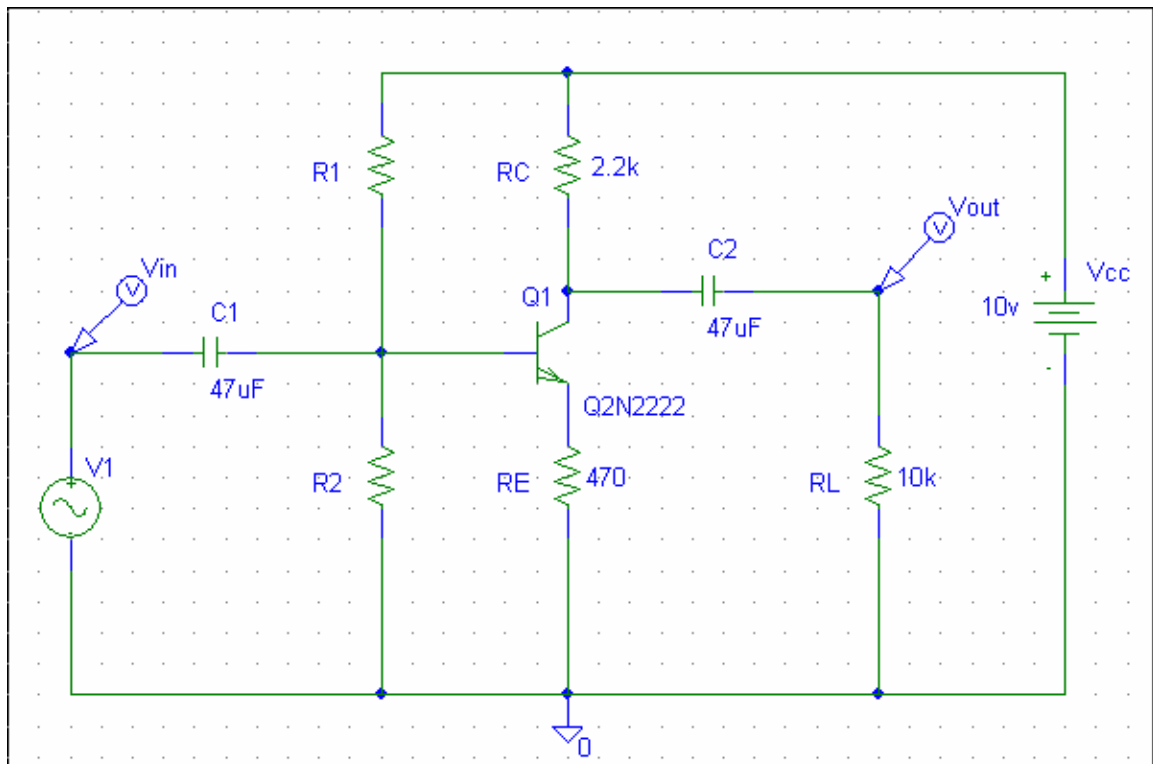

Figure 1 – Bias-stable Transistor Amplifier Schematic
- Complete the transistor design (shown below in Figure 1) by finding **R1** and **R2**. You are given:
- Build the circuit shown below in Figure 1. (Use the nearest standard resistor values for your calculated **R1** and **R2**)